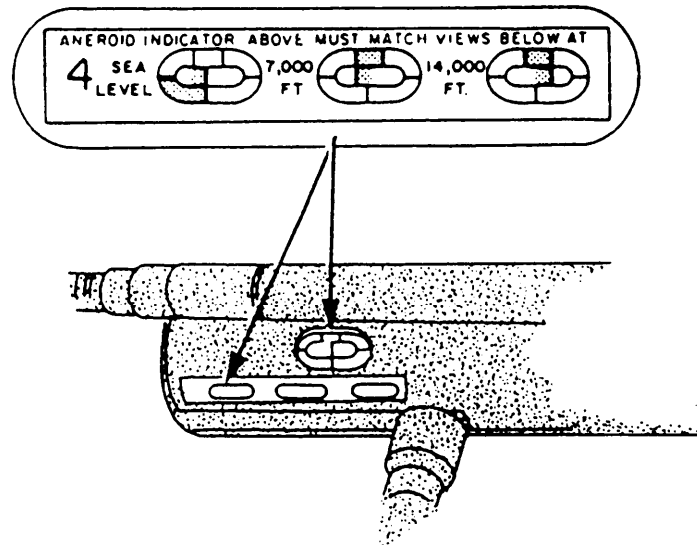

Figure 2-17.—Checking for proper position of aneroid.
4. Check for proper position of the aneroid (fig. 2-17).